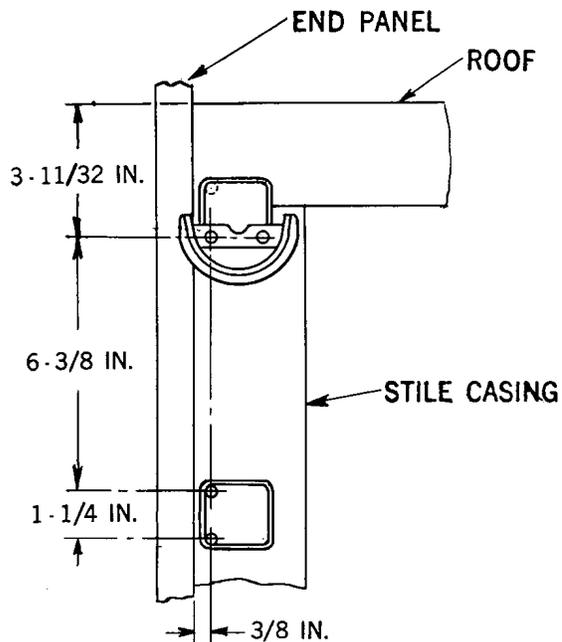

Fig. 4 - 555 Switchboard
4.03 Early manufactured 555 switchboards were provided with a piece part handset hanger which was fastened to the stile casing with wood screws. Fig. 4 shows the recommended location if it becomes necessary to replace the